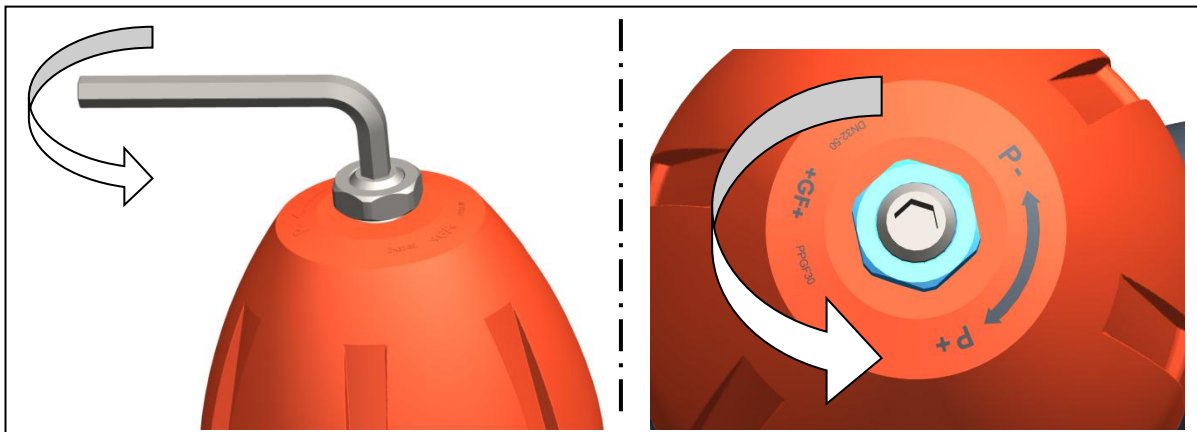

Fig. 5
- ▶ In order to decrease the setpoint value: Relax the spring. To do so, turn the spindle counterclockwise, see Fig. 5